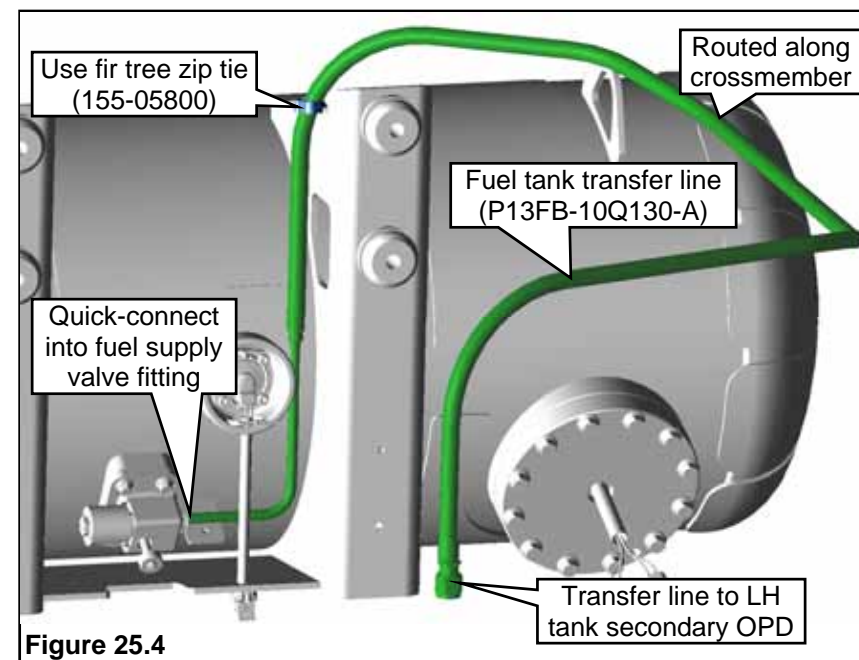

Figure 25.4
3. Install the RH tank fuel supply valve transfer line onto the tank. Push the quick-connect fitting of the line into the fuel supply valve. Push-pull the line to make sure the line is secure. Snap the line into the double snail clip on the rear mounting saddle. **Figure 25.4.**